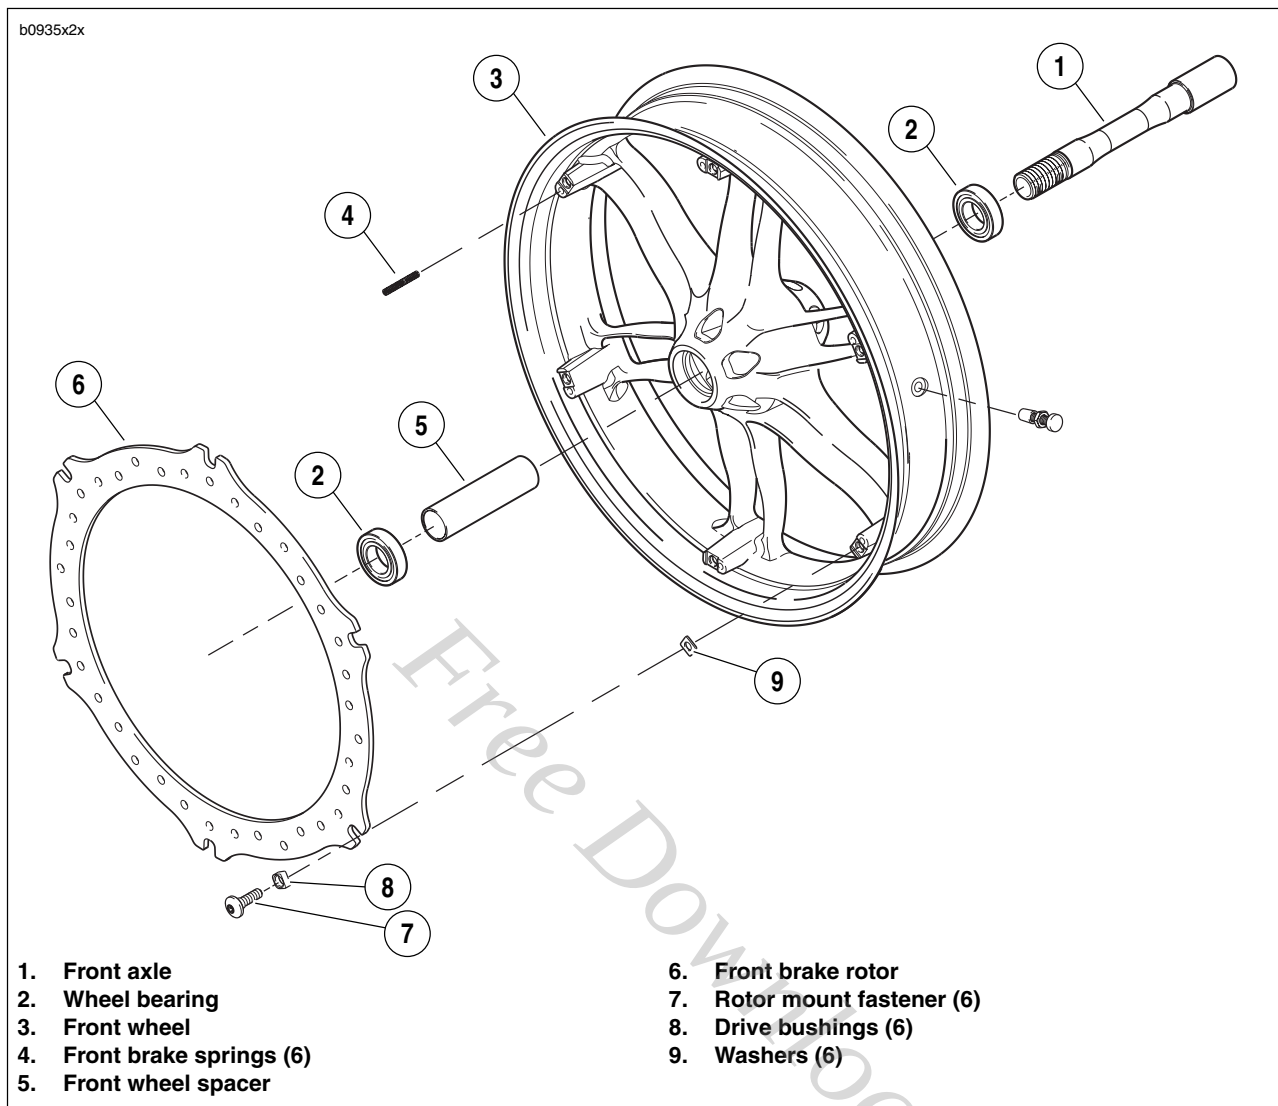

Figure 2-17. Front Wheel Assembly
1. See Figure 2-17. Remove and discard rotor mounting fasteners (7).
2. Remove and inspect brake rotor (6) for wear and warping. See 1.8 TIRES AND WHEELS.
3. Remove drive bushings (8) and discard.
4. Remove washers (9) and discard.
5. Remove rotor spring (4) and discard.
1. See Figure 2-17. Install spacer (5).
2. Install **new** wheel bearings (2) into hub using suitable driver. Press on outer race only.
1. See Figure 2-17. Install **new** spring (4).
2. Install **new** washers (9).
3. Install **new** drive bushings (8) into rotor.